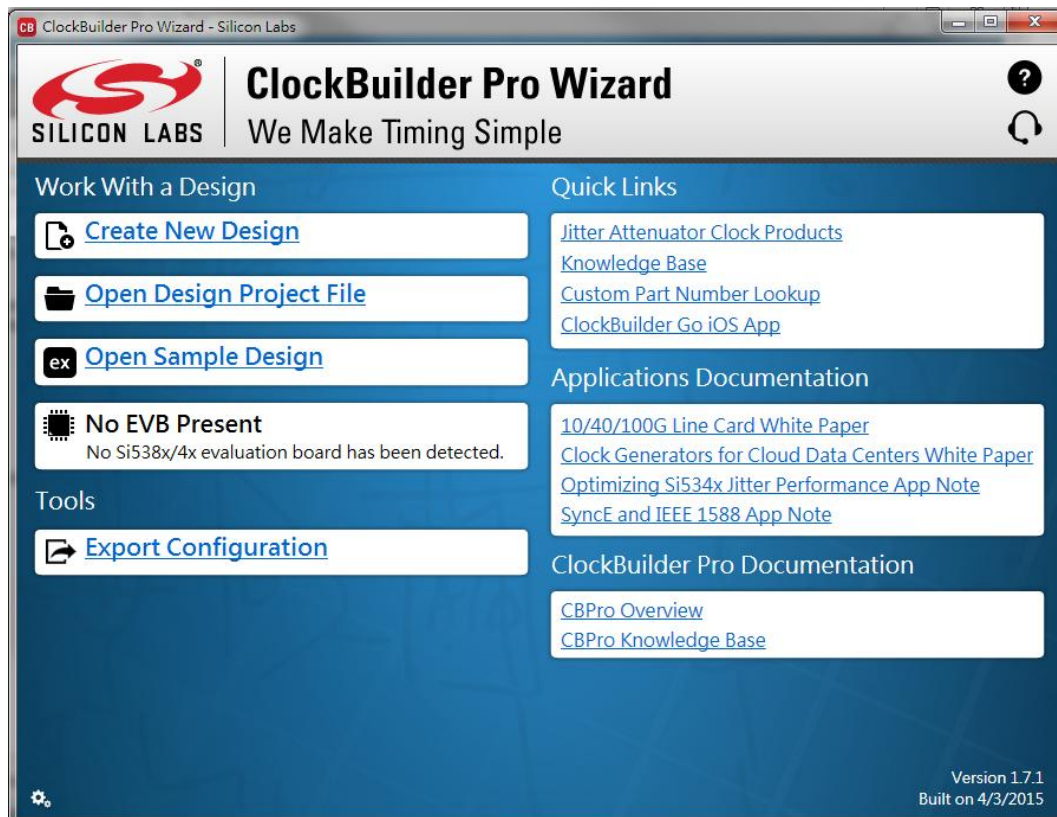

Figure 5-6 ClockBuilder Pro Wizard
1. Firstly, download ClockBuilder Pro Software (See **Figure 5-6**), which is provided by Silicon Labs. This tool can help users to set the Si5340's output frequency of each channel through the GUI interface, and it will automatically calculate the Register parameters required for each frequency. The tool download link: